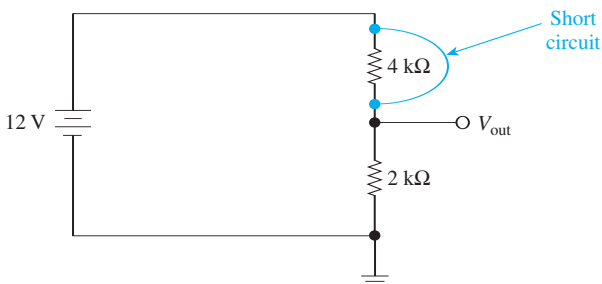

Figure 6 A short across the top resistor causes the entire 12 volts to reach V_{out} .
Find V_{out} in Figure 6.
8. The short circuit in Figure 6 causes V_{out} to become 12 V because the current through the $2\text{-k}\Omega$ resistor becomes 0 A . True or false?